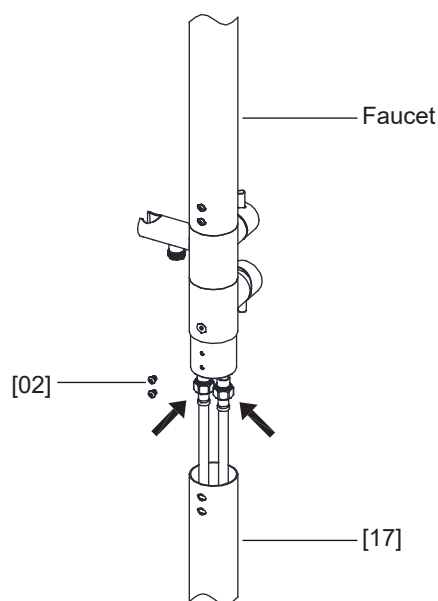
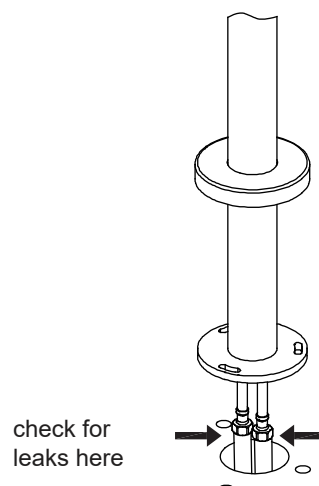

Fig 4.1
Fig 4.2
- 4-1** Remove the **Screw [02]** and detach the **Post [17]** from the faucet, as shown in Fig.4.1.
- 4-2** Turn on hot and cold water supplies and check connections at arrows for leaks. (Fig 4.1, Fig 4.2)